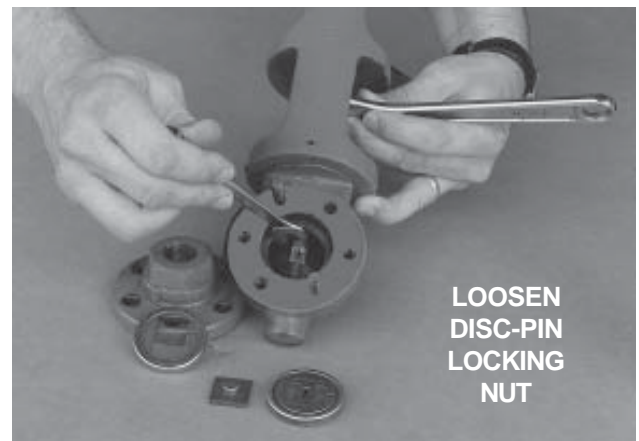

Figure 36
- Loosen the disc-pin locking nut and allow at least 10 minutes for the valve to react (see figure 36).